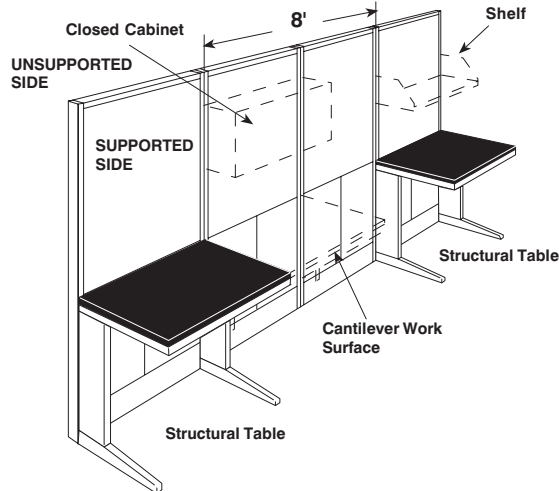

Figure 2A
3. End supports are defined as any of the following items which add stability to a single or a run of island panels: structural table, 24" or 30" wide island panels, or support leg. (See Figures 2A, 2B, 2C)
4. Shelves, closed cabinets, and cantilevered work surfaces may only be attached to the supported side of an island panel or run of panels. (See dotted lines, Figure 2A)